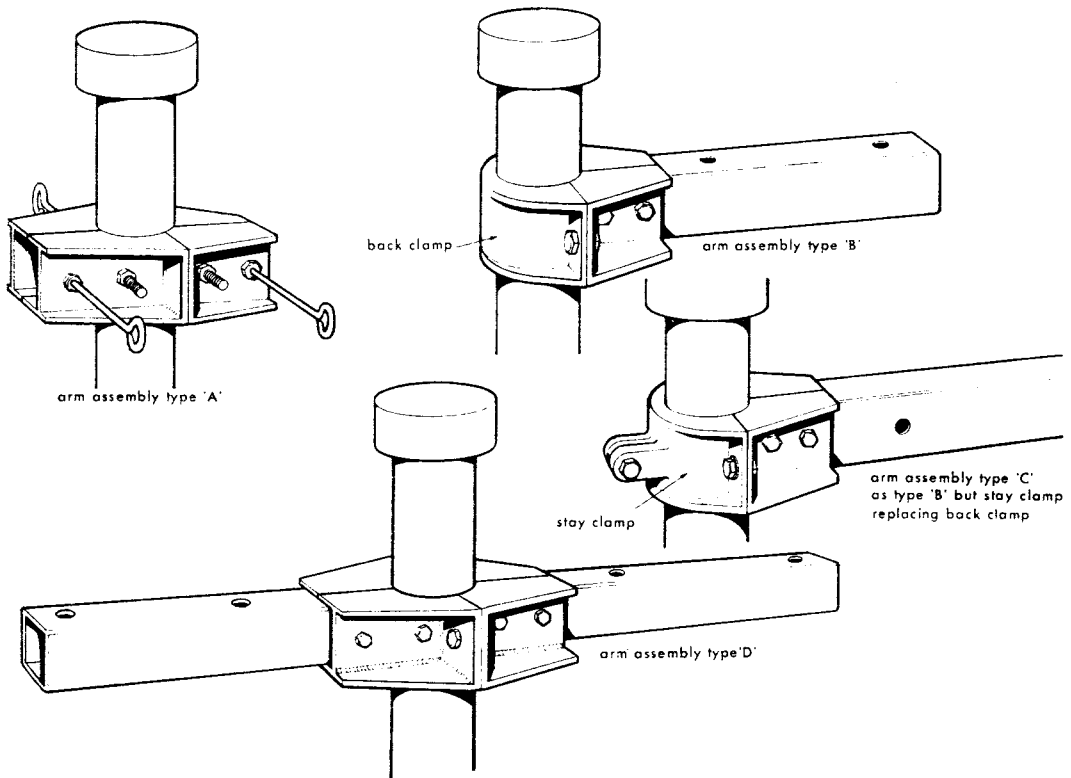
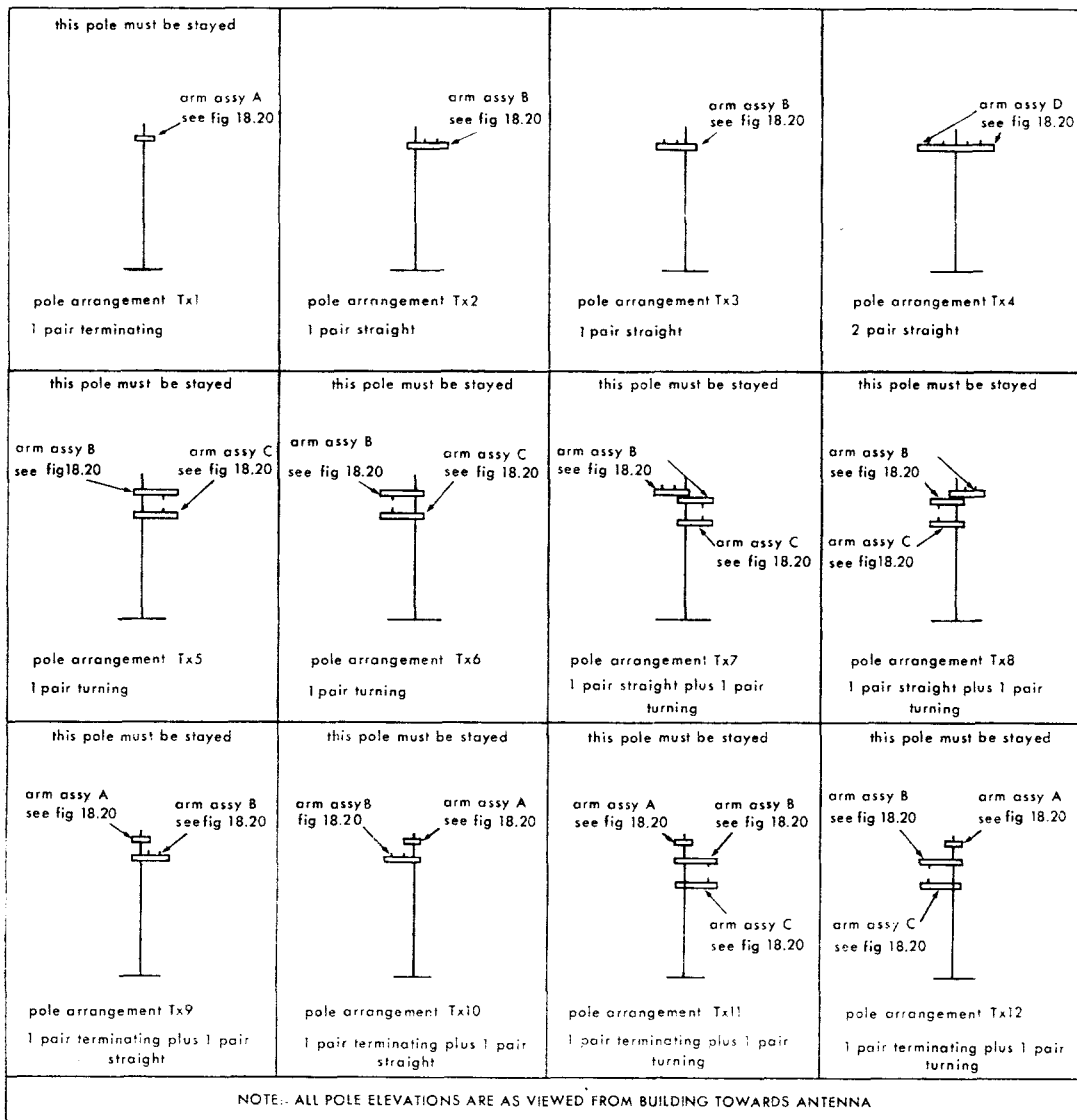

Fig 18.20 Standard Arm Assemblies
Fig 18.21 Pole Arrangements
There are four standard arm assemblies as illustrated in Fig 18.20. They are as follows:
- Type C — used in conjunction with a Type B arm for turning one pair vertically (see Fig 18.21). The arm has provision for the attachment of a stay.
The arm assemblies illustrated in Fig 18.20 may be used in a number of different combinations to suit the requirements of a particular feeder run. The various combinations are shown in Fig 18.21, in which all poles are shown as viewed from the building to the antenna.